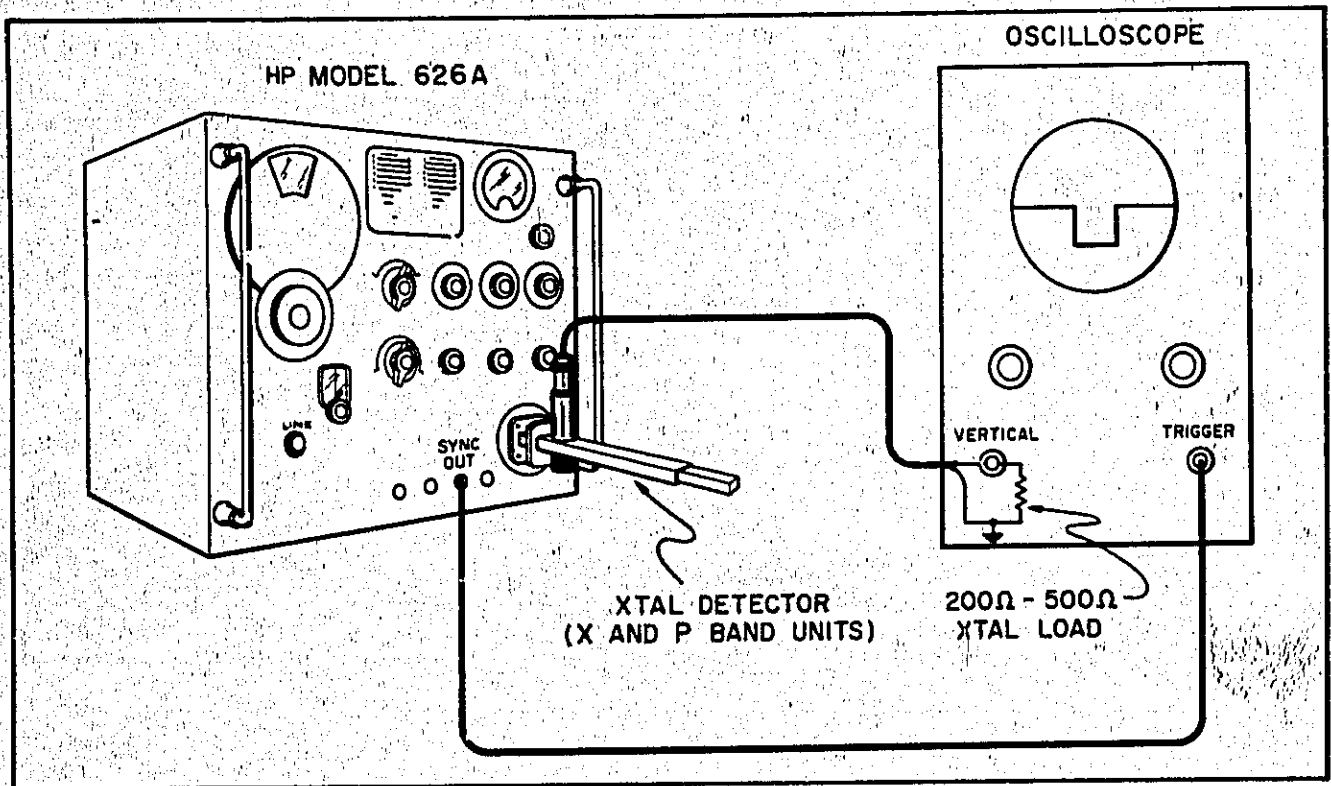

Figure 5-14. Calibration Test Setup
a. Connect test setup as shown in Figure 5-14.
a. Connect test setup as shown in Figure 5-14. DELAYED SYNC OUT signal may be used instead of the RF pulse.
a. Connect test setup as shown in Figure 5-14 except that DELAYED SYNC OUT signal is to be used for triggering oscilloscope.